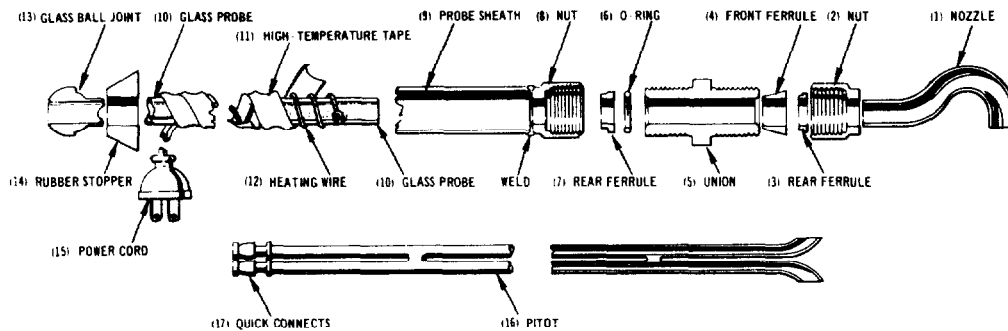

Figure 2. Pitobe assembly.
To disassemble the pitobe, first remove the Swagelok* union (parts 2 through 7) except for the welded nut (8) as shown in Figure 2. The nozzle (1) is usually removed in the field and carried separately. Check for broken glass chips.